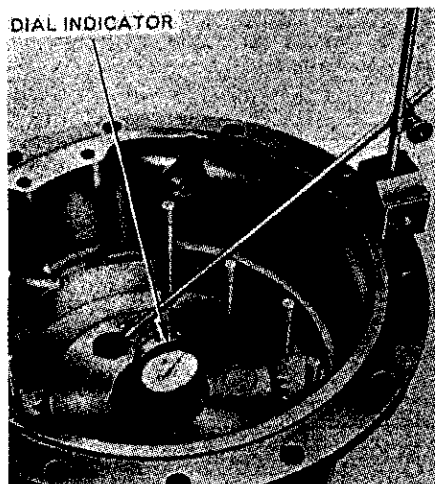

Fig. 342—View showing method of checking rear axle shaft bearing adjustment (end play) with dial indicator. Refer to text.
Axle shaft end play/bearing preload must be adjusted at this time; proceed as follows: Obtain thickest spacer shim (13) available and install this shim with retainer (14) on inner end of axle shaft. Install axle retaining cap screw and tighten to torque of 350-440 Ft.-Lbs. Mount a dial indicator with extended plunger against head of axle retaining cap screw as shown in Fig. 342 and zero the indicator dial. Lift the axle housing upward and note the dial indicator reading. Remove the cap screw, retainer and spacer shim, measure spacer shim thickness using a micrometer, then subtract dial indi-